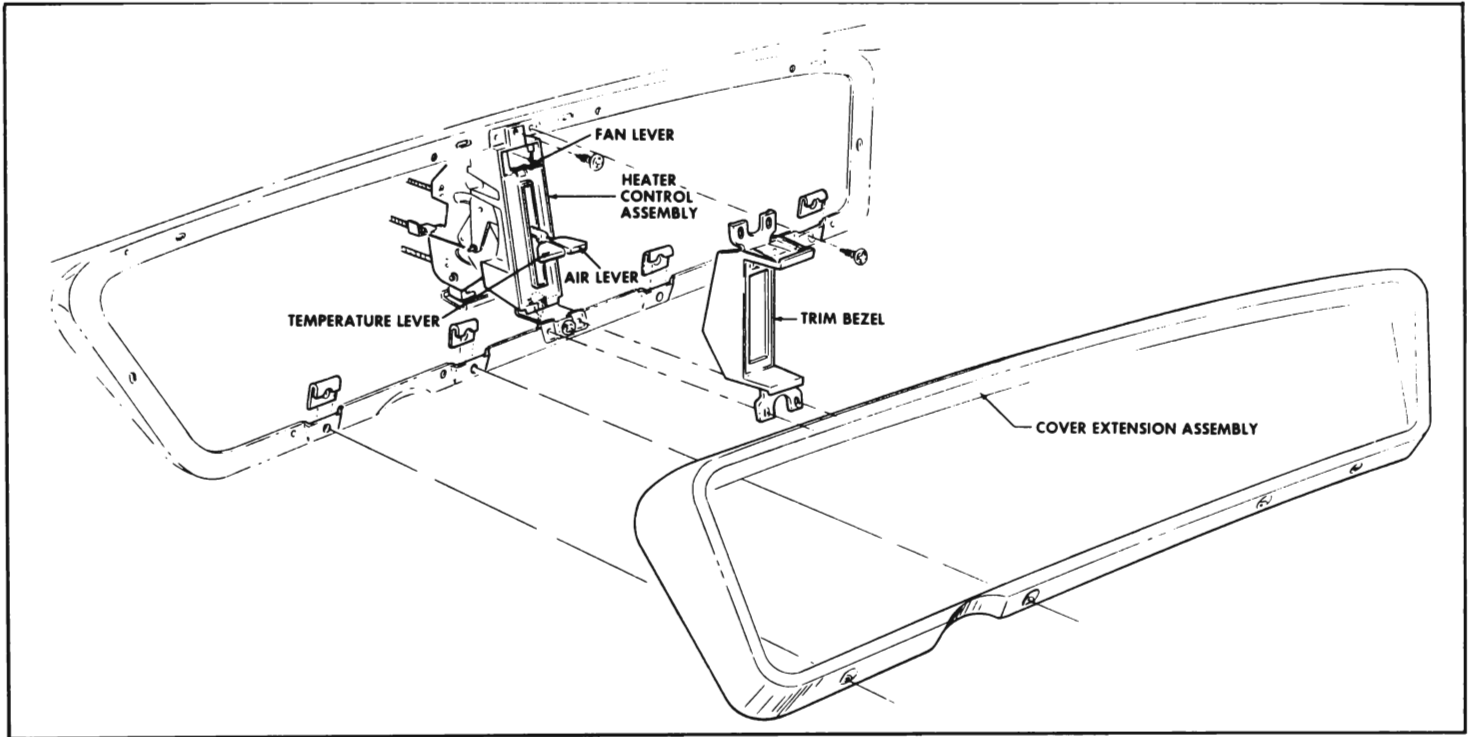

Figure 11-15—Heater Control Assembly Removal
3. **Heater Control Assembly**—The heater control assembly (see Figures 11-15 and 11-16) consists of three controls, namely the temperature control lever, air control lever, and FAN lever. The temperature control lever is connected by a control wire to the temperature door on the heater assembly, and regulates the ratio
1. Remove five screws from instrument panel nose trim pad and lift off nose trim pad (see Figure 11-15).